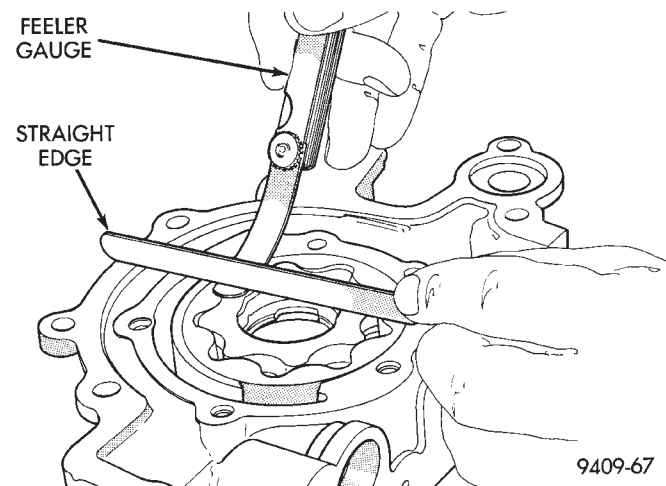

Fig. 107 Measuring Clearance Over Rotors
(7) Place a straightedge across the face of the pump housing, between bolt holes. If a feeler gauge of .102 mm (.004 inch) or more can be inserted between rotors and the straightedge, replace pump assembly (Fig. 107). **ONLY** if rotors are in specs.